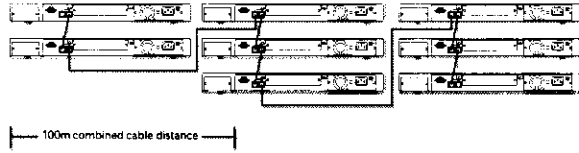

Figure 3: Dispersed hubs connected through cascade connectors.
- Cascade cabling requires standard (Category 3 or better) four-pair unshielded twisted pair (UTP) cable terminated with RJ-45 connectors (see Figure 3).